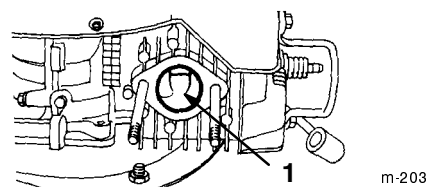

Figure 20
6. Slowly pull the recoil starter so that the piston covers the exhaust port (Fig. 20).
7. Clean the carbon from the exhaust port (Fig. 20) with a flat hardwood scraper.
8. Install the muffler with the screw, two nuts, and two lock washers (Fig. 20).